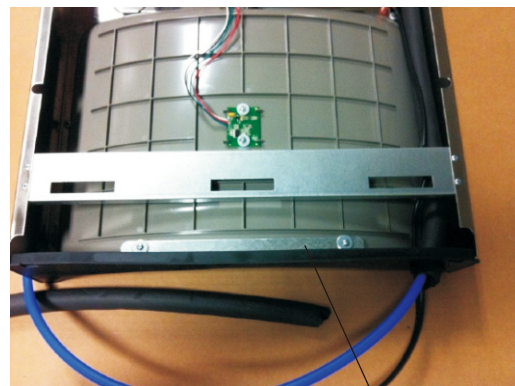

FIGURE 6
- 4) Install wall mounting plate to wall using six (6) 7/16" obround mounting holes (mounting bolts not included) (See Fig. 6). Use appropriate fasteners for your wall type.
- 6) Install gasket on bottom of bottle filler tower with gasket support bracket (See Fig 6).